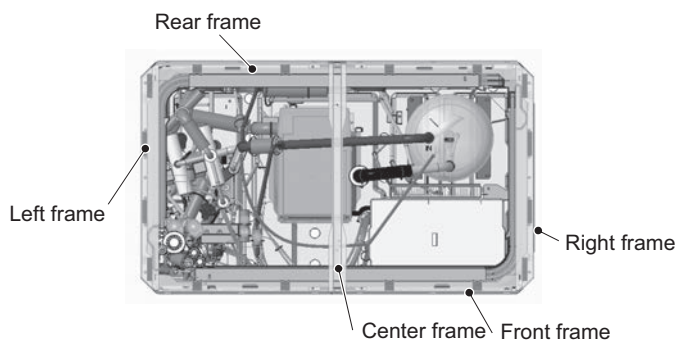

Figure 11
- (15) To remove the front heat exchanger, first remove the front, left, right, and center frames by unscrewing the 14 screws. (See Figure 11.)
To remove the rear heat exchanger, remove the rear frame in addition to the front, left, right, and center frames by unscrewing the 16 screws. (See Figure 11.)